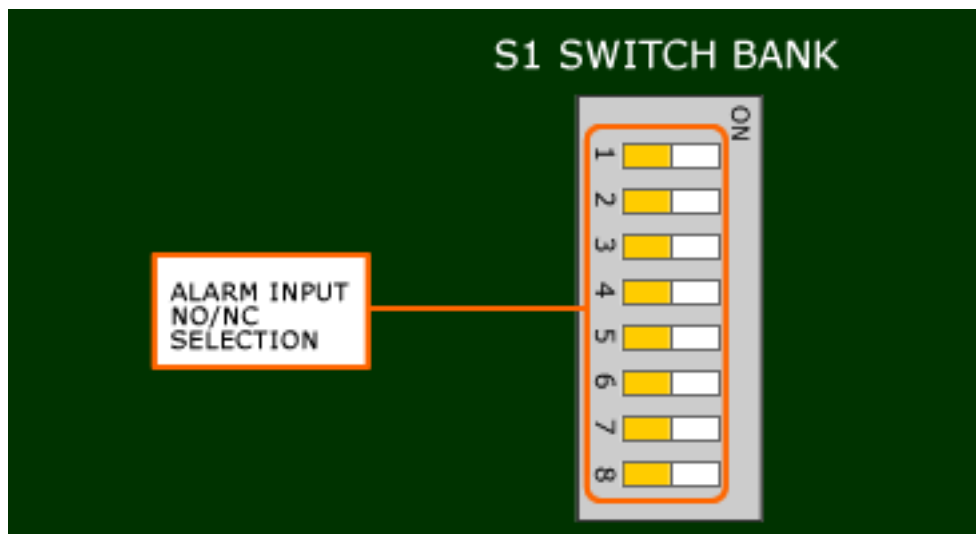

Figure 12. Individual switch usage for switch bank S1
This switch is used to select whether the external alarm input devices provide a normally open (NO) or normally closed (NC) contact. If a switch in the S1 bank is ON then the corresponding alarm input is normally closed (i.e. opening contact triggers alarm). If a switch is OFF then the corresponding alarm input is normally open (i.e. closing contact triggers alarm). As there are eight alarm inputs, each of the switches in bank S1 are used (see Figure 12), with the switch number corresponding to the alarm contact input number.